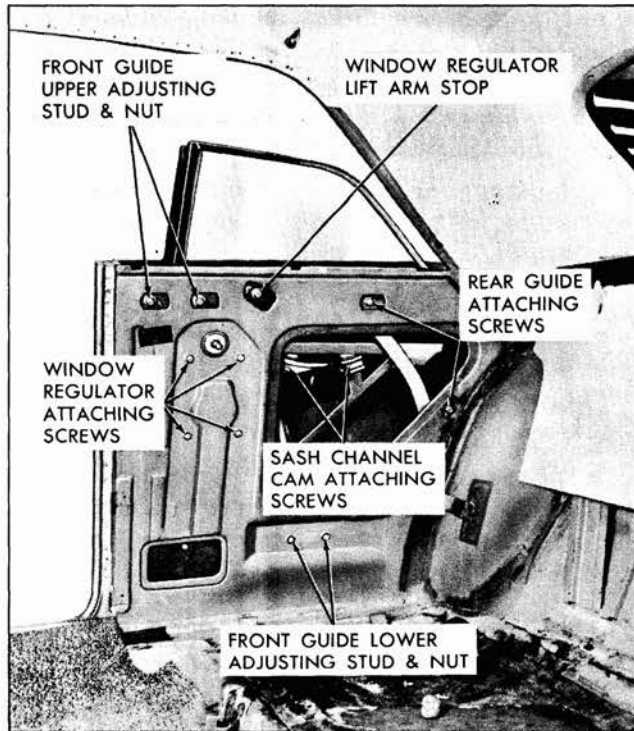

Fig. 4-5 Rear Quarter Hardware
2. Remove rear quarter window rear guide attaching screws (Fig. 4-5). Disengage rear guide from roller on window lower sash channel and remove guide.
3. With the rear quarter window in the half-down position, remove the lower sash channel cam attaching screws (Fig. 4-5). Detach cam from roller on regulator arm and remove cam.
4. Remove rear quarter window front guide adjusting stud nuts (Fig. 4-5).
2. To adjust the window fore or aft, loosen the front and rear guide attaching stud nuts (Fig. 4-5). Position the window and guides fore or aft as required; then tighten the attaching stud nuts.
3. To adjust the rear quarter window in or out, loosen the front guide upper attaching stud nuts (Fig. 4-5). Adjust the studs in or out as required; then tighten the stud nuts.
4. To adjust the top of the rear quarter window in or out, loosen the front guide lower attaching stud nut (Fig. 4-5). Adjust the stud in or out as required then tighten the stud nut.
5. To relieve a binding condition between the channels of the front and rear guide, loosen the front and rear guide adjusting stud nuts (Fig. 4-5). Operate window to full up position and tighten upper stud nuts on the front guide and forward attaching screw on rear guide. Operate window to full down and tighten remaining nuts.
6. To limit the forward and upward travel of the rear quarter window, adjust the regulator lift arm stop as required (Fig. 4-5).
2. Remove rear quarter window regulator attaching screws (Fig. 4-5); then remove regulator assembly through large access hole.
2. With window in "up" position, remove the window front guide upper and lower attaching stud nuts (Fig. 4-5).
2. With the window in the "up" position remove the window rear guide attaching screws (Fig. 4-5). Disengage guide from roller on window lower sash channel and remove guide through access hole.